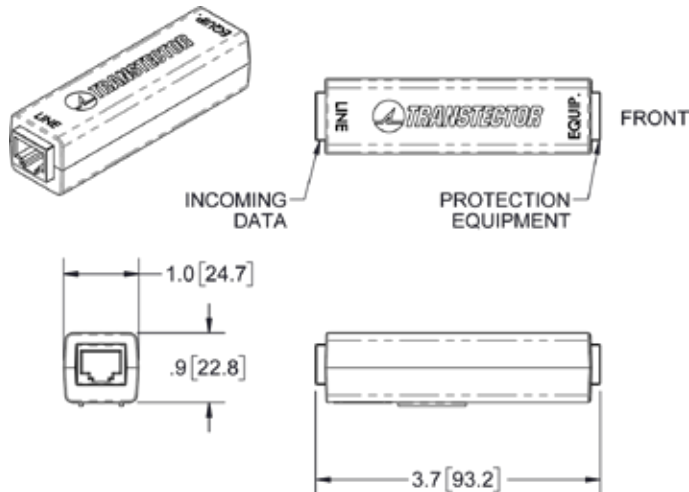
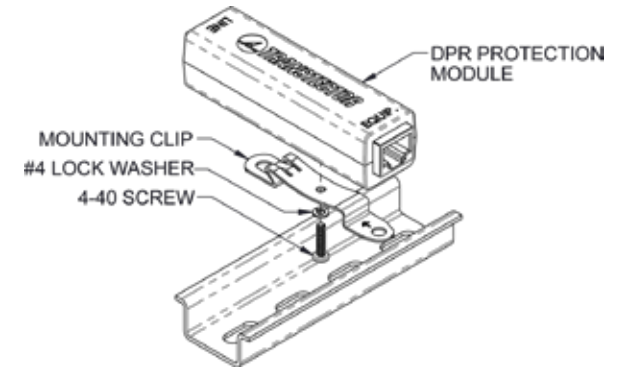

Figure 2.1
Figure 2.2
2.1. DIN Rail Mounting: Attach the mounting clip to the DPR protection module with the provided 4-40 screw & lock washer from the accessory kit. Attach the assembled module to the 35mm DIN rail as shown in Fig. 2.1. To detach the module from the DIN rail, lift up on the lever as illustrated in Fig. 2.2.